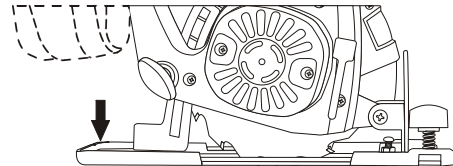

Figure 6
1. Turn the depth adjustment knob counterclockwise. (Figure 6)